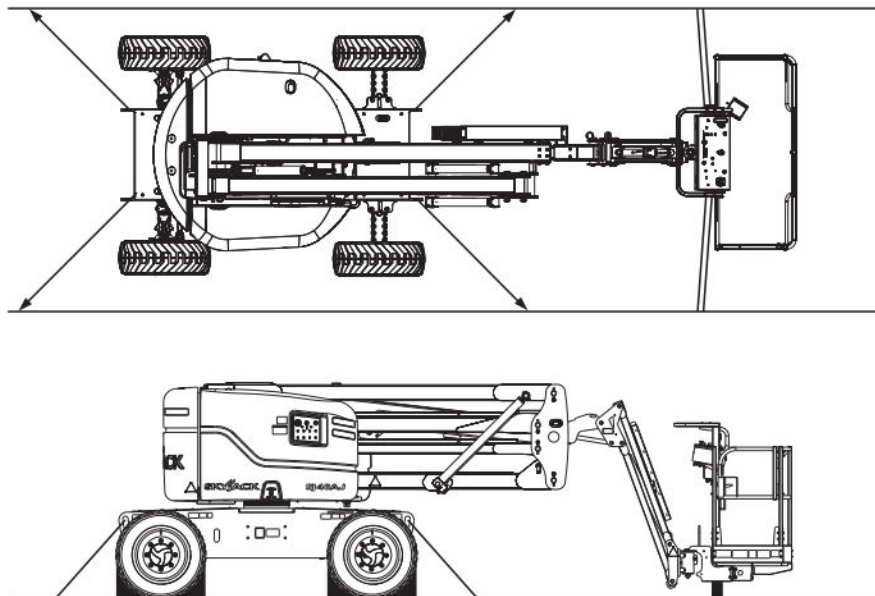

Figure 3-3. Tie-down Points
6. Anchor down aerial platform to transport surface using tie-down points (refer to Figure 3-3).